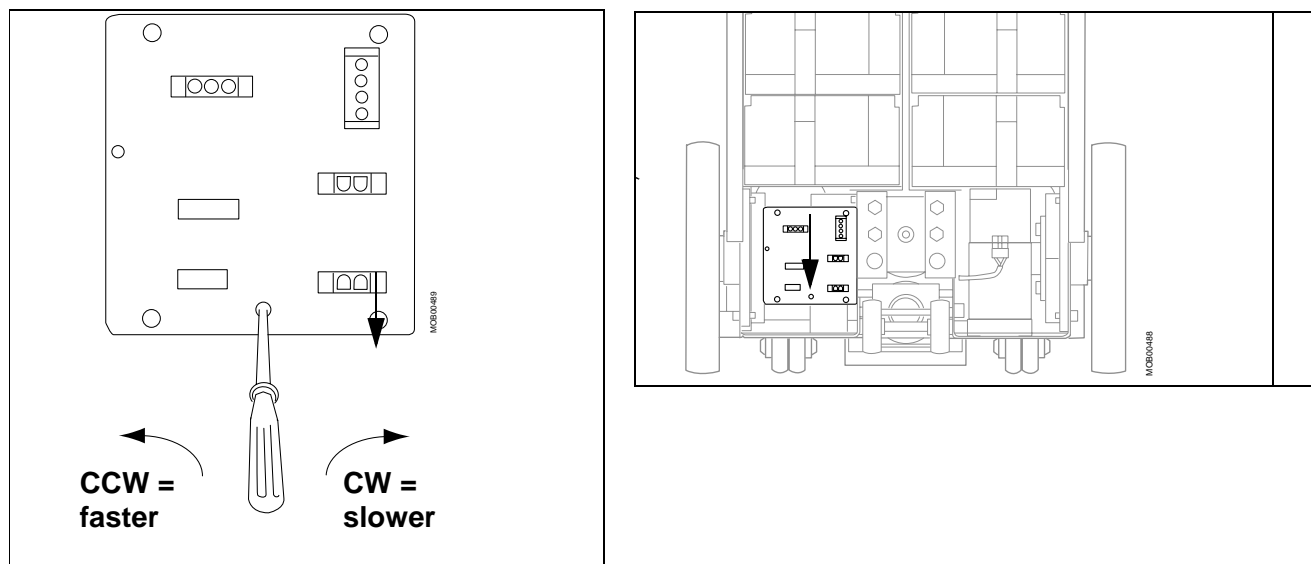

Fig. 1
- Adjust the speed with a screwdriver as shown in (Fig. 1).